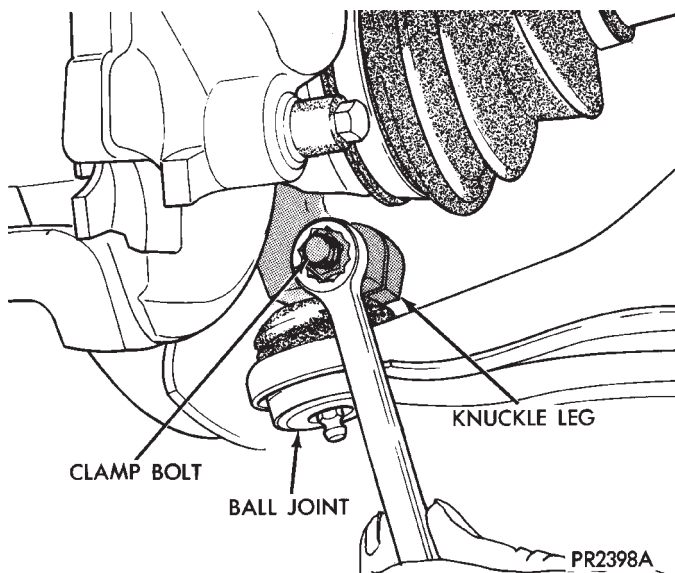

Fig. 16 Tighten Clamp Bolt
(4) Install and tighten clamp bolt to 95 N•m (70 ft. lbs.) torque (Fig. 16).